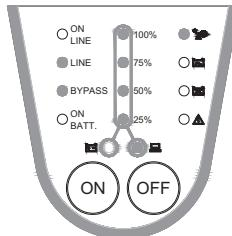

Fig. 4-5 Overload and UPS Transfer to Bypass
- ✓ OVERLOAD: If the load exceeds the UPS rating after a limited period, the overload LED will light on and buzzer will continuously beep to alarm users. Users should unplug some uncritical loads to release the overload condition. See Fig. 4-5.